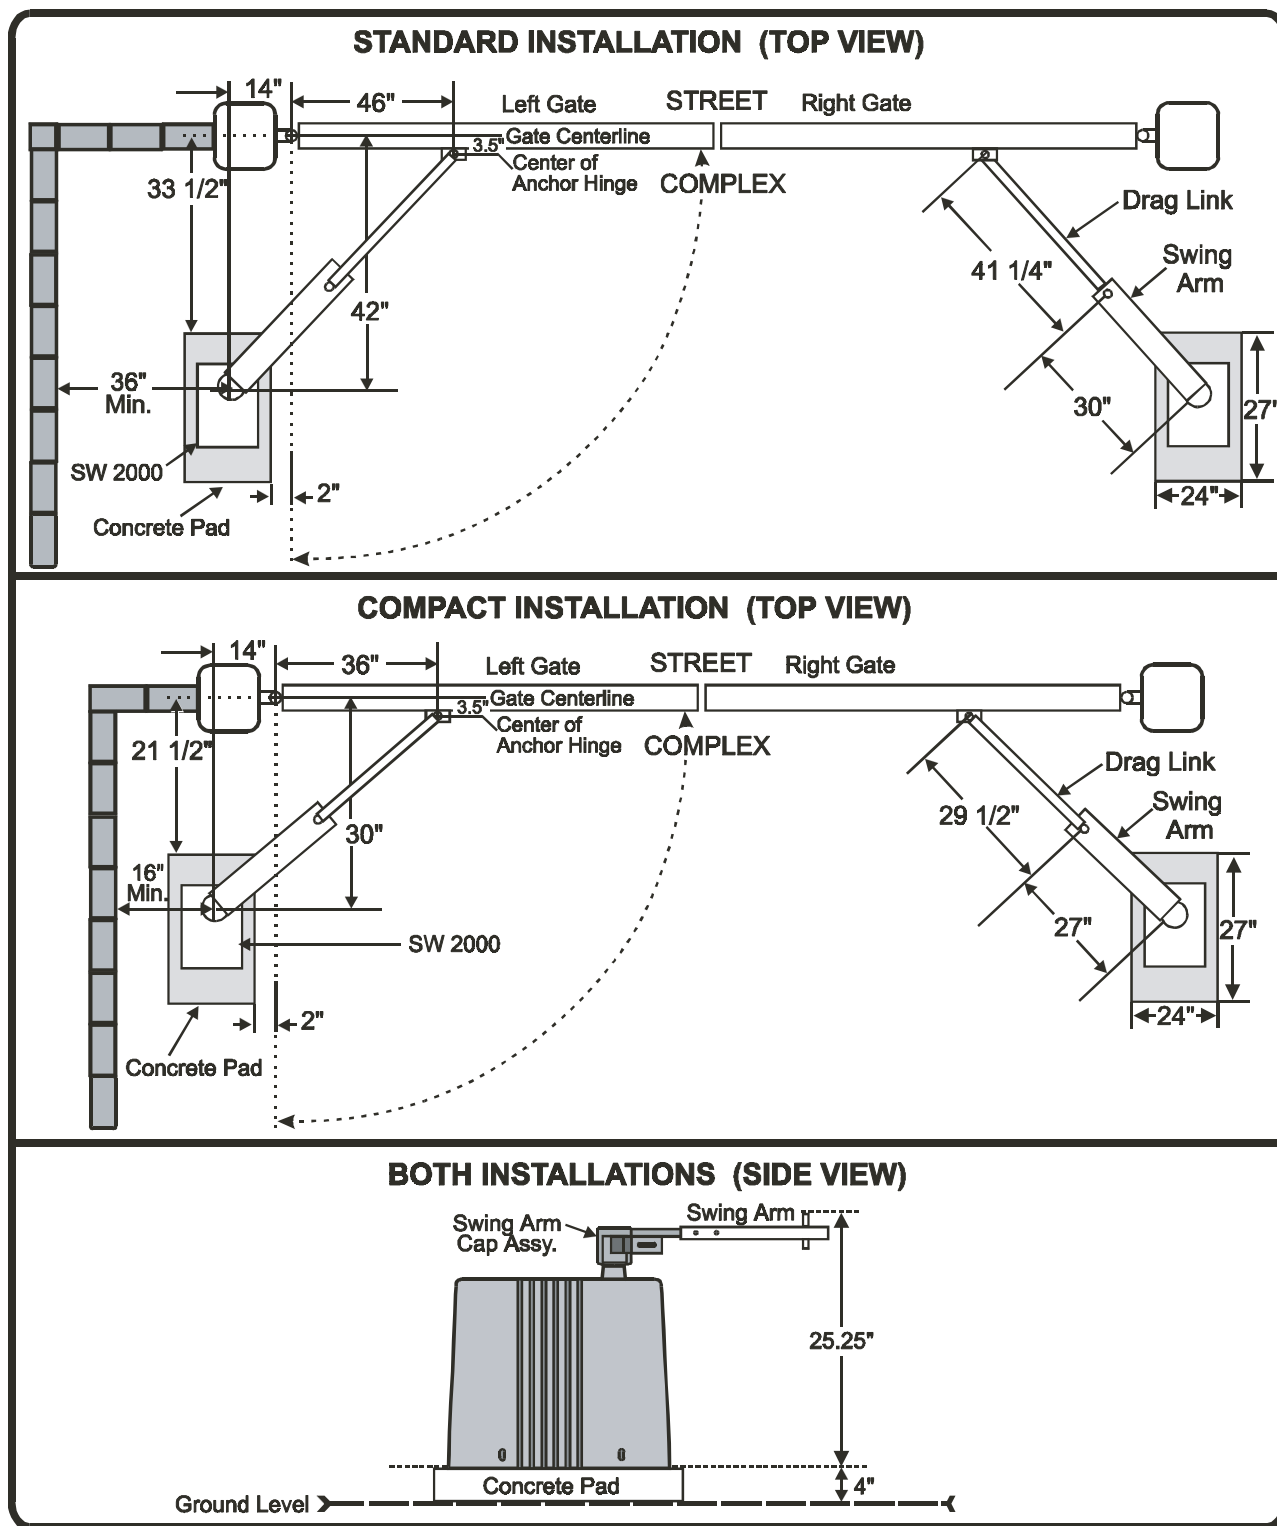

Figure 1. Gate Operator Layout Options
- Figure 1 shows a typical Bi-Parting gate in standard and compact installations.